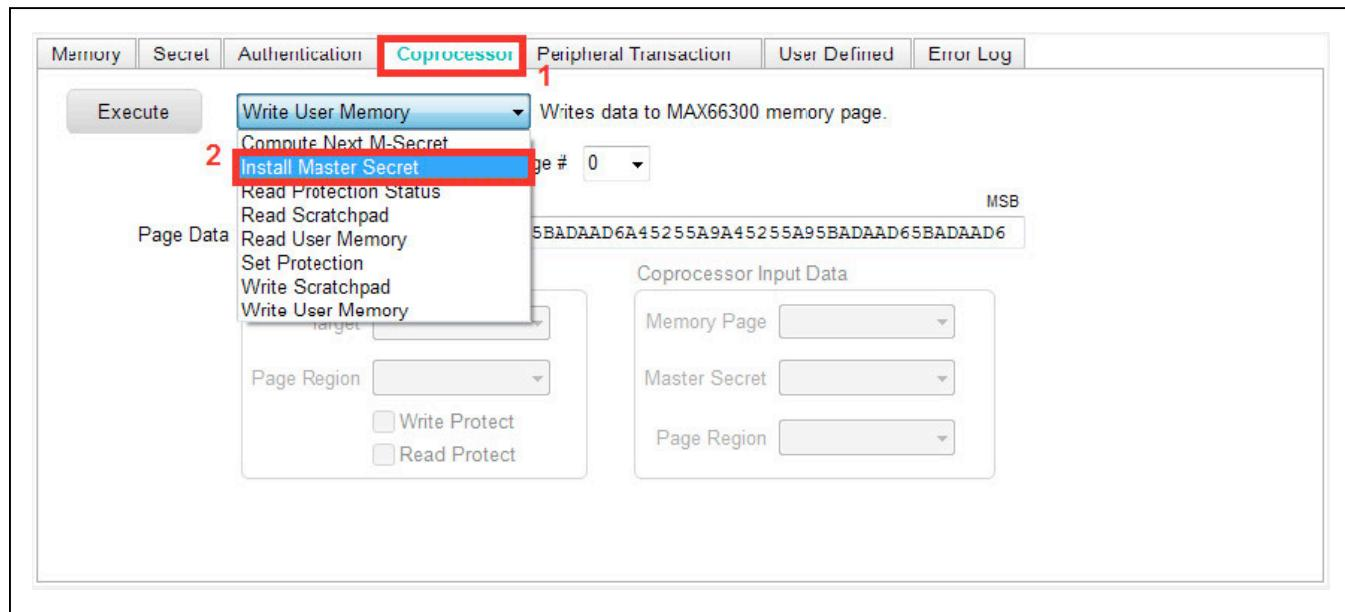

Figure 27. Installing the M-Secret from the Coprocessor Tab
- 23) First, click the **Coprocessor** tab. Second, select **Install Master Secret** (Figure 27).